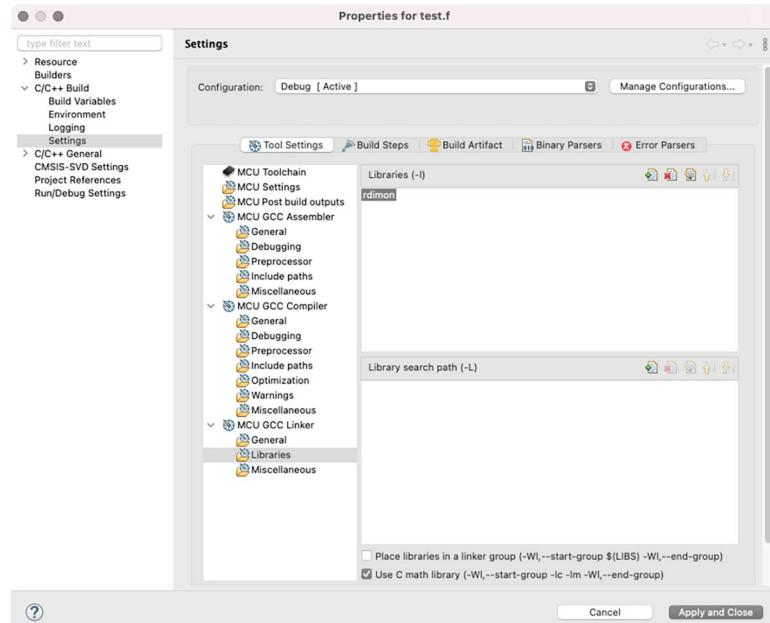

Figure 24.32: Configure the project to link rdimon library
3. Update GCC Linker project configuration adding `rdimon` library to the linked libraries, as shown in **Figure 24.32**.